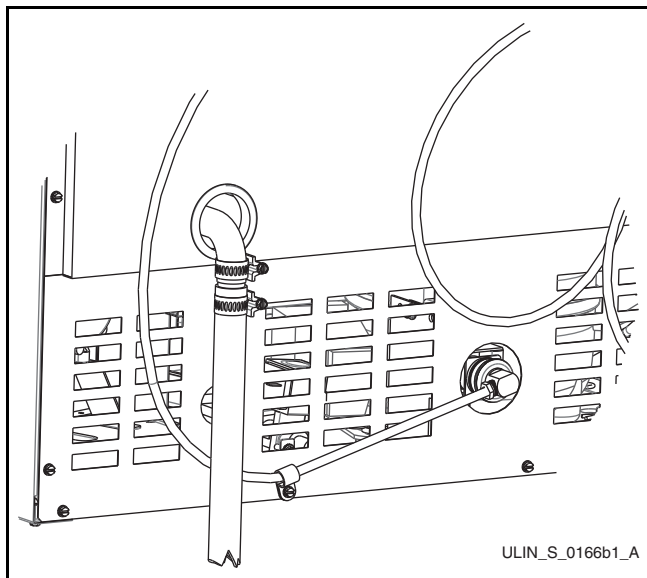

Figure 71
- Slide two hose clamps onto the drain connection on the rear of the appliance. Insert the barbed fitting half-way into this connection. On the other end of the barbed fitting attach the 5/8" braided tubing. Slide a clamp onto each side of the barbed fitting as shown (Figure 71 & 70).
- Connect the water supply fitting by screwing the brass garden hose fitting to the water valve in the rear of the unit. Tighten this fitting with a pliers. Do not use Teflon tape or joint compound on the fitting. The rubber washer provides an adequate seal. Other materials could cause blockage of the valve. The copper water line should now be clamped to the rear of the unit to prevent rotation when sliding in. Remove the clamp from the unit, slide the tube into it and reattach using the 1/4" nut driver as shown (Figure 71 and 70).